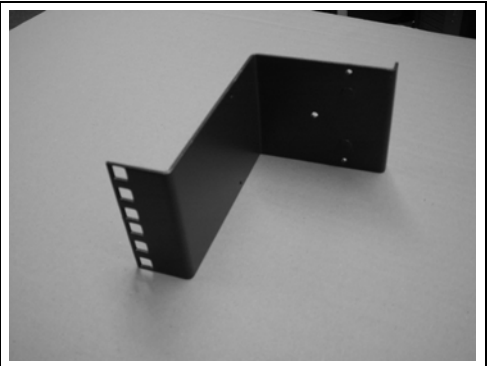

Figure 2: Angled installation bracket
- one angled installation bracket (Figure 2)